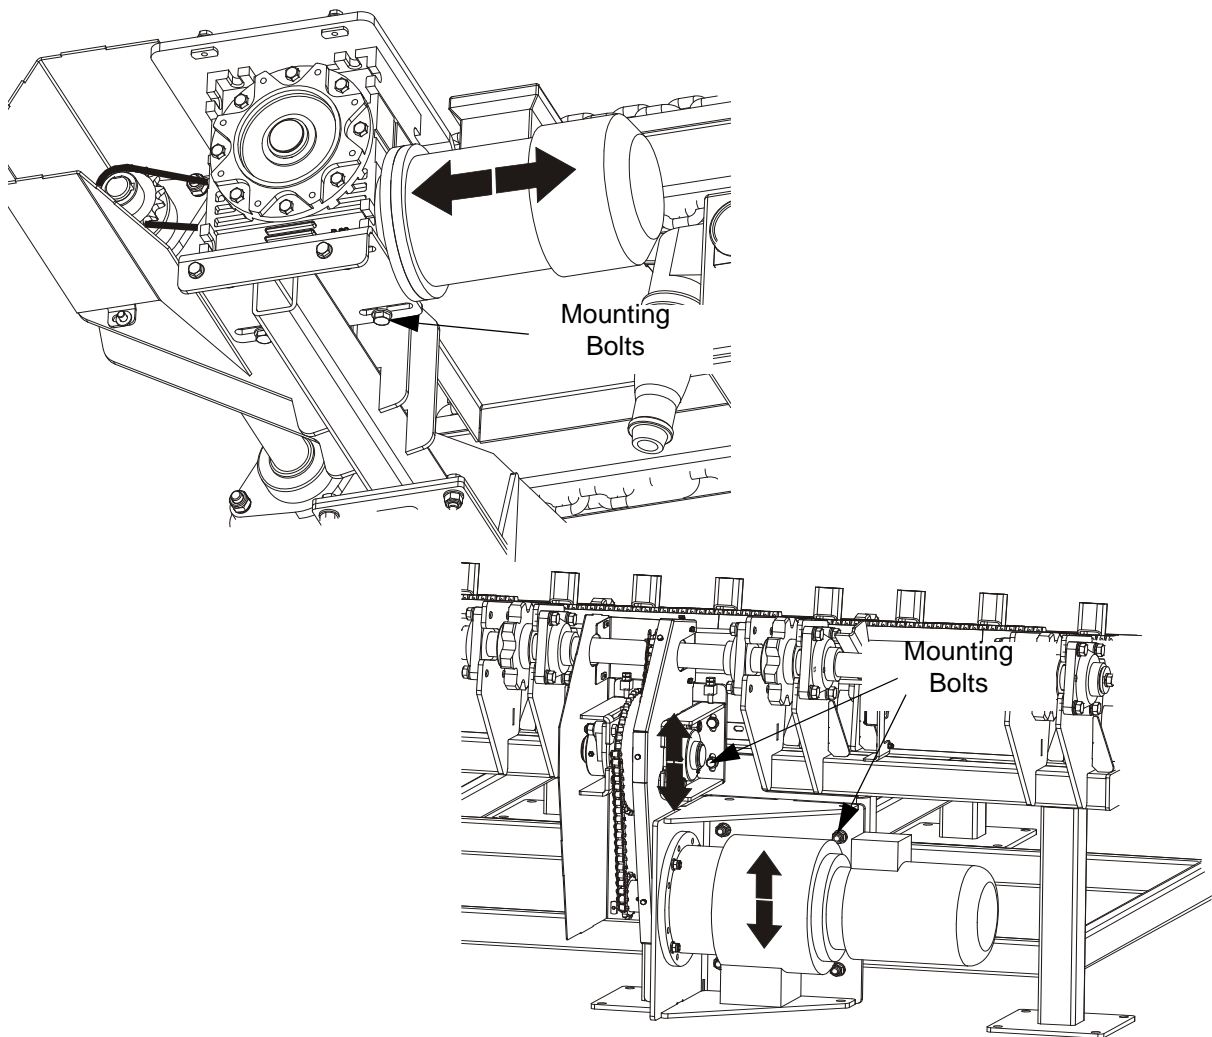

FIG. 4-11
**See Figure 4-11.** Loosen mounting bolts and slide the motor with mounting plate in direction shown by arrows.